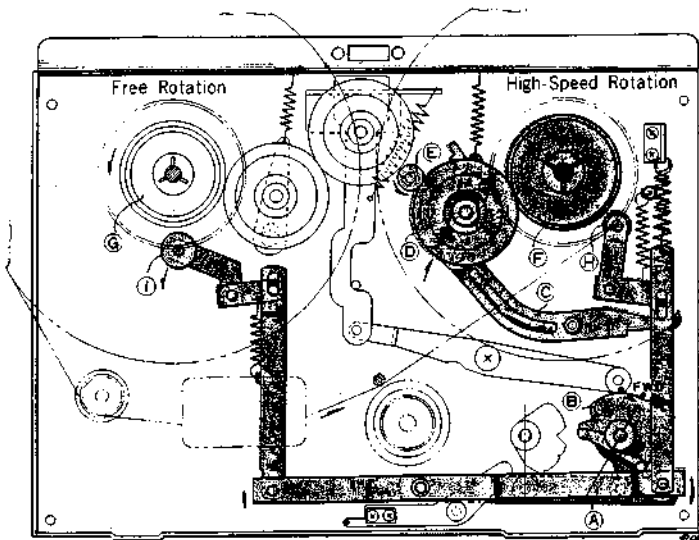

Fig. 3
Turn the *FAST FWD-REWIND knob* (A) to "FAST FWD" position, and the *cam* (B) under the knob pushes up the *Lever* (C). The *Idler* (D) moves into the space between the *Plastic Roller* (F) above the *Take-Up Reel Spindle* and the upper part of the rotating motor drive bushing to transmit the motor rotation to the take-up reel spindle. At the same time, *Brake Rollers* (H) and (I) come off the reel spindle to free the *Supply Reel Spindle* (G), thereby allowing fast winding of the tape onto the take-up reel. (See figure 3)